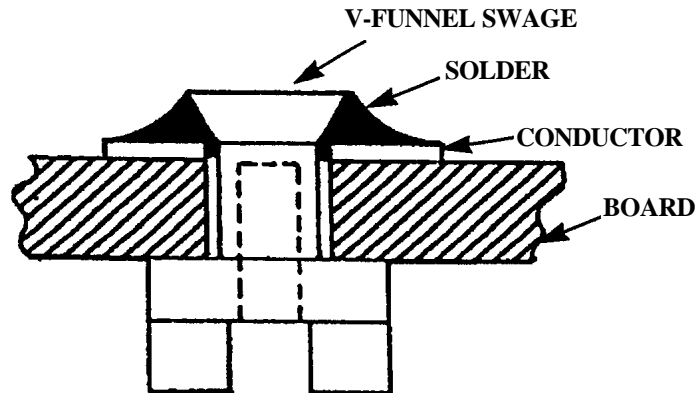
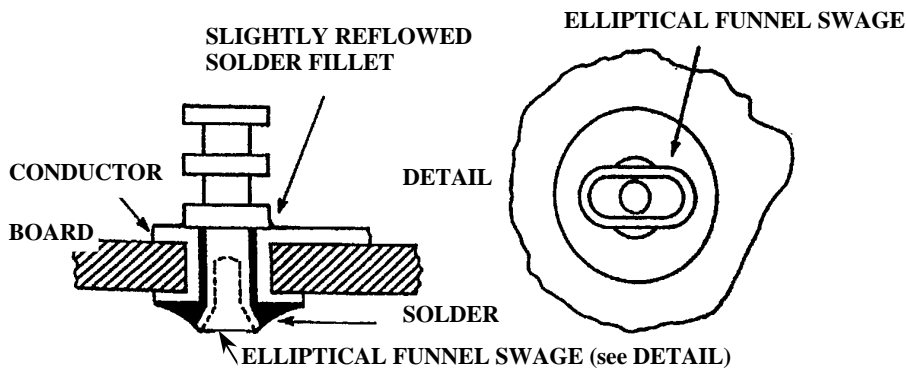

Figure 8-3. V-Funnel Type Swage
Figure 8-4. Elliptical Funnel Type Swage
3. PWB designs calling for soldering of the swaged end of the terminal to the printed wiring conductor on a single-sided PWB shall have the terminal secured with a V-funnel swage (refer to Figure 8-3).
4. Swage type terminals that are mounted in a PTH shall be secured to the PWB by a V-funnel swage (Figure 8-3) or an elliptical funnel (Figure 8-4) swage. The elliptical funnel swage is the preferred method for attachment. Terminals shall be swaged such that they can be rotated under finger force.